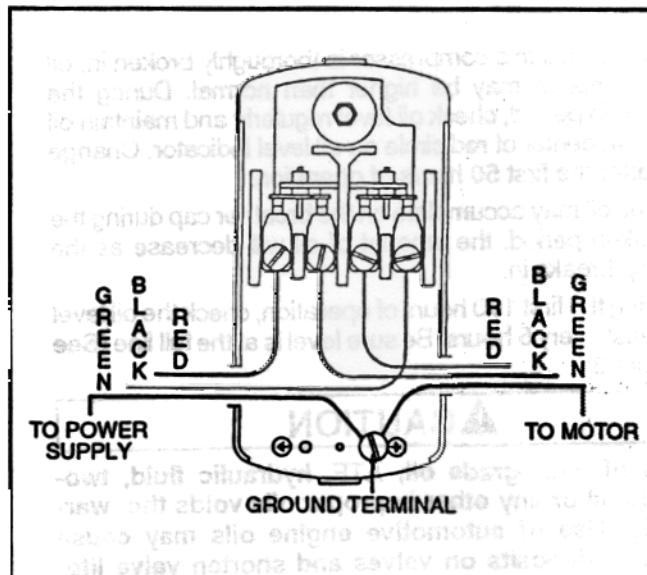

Figure 2 - Pressure Switch Connections
1. Connect power lines and ground to terminals in the pressure switch (See Figure 2).